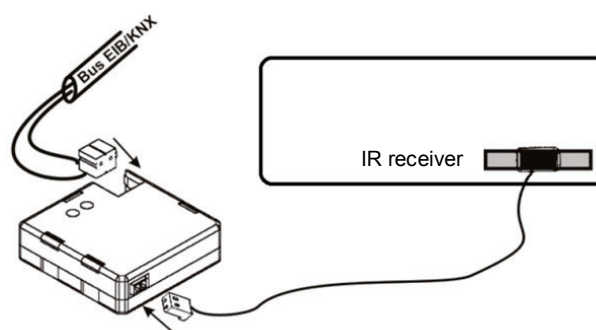

Figure 3. IRSC - A/C unit interface
- **Programming button (3):** a short press on this button sets the device into the programming mode, making the associated LED (2) light in red. If this button is held while plugging the device into the KNX bus, IRSC goes into secure mode.
- **IR emitter (5):** infrared flashing diode to send commands to the air conditioning system. It must be placed in front of the air conditioning IR receiver (see Figure 3).
- **Socket for the aerial connector (6):** slot for the insertion of the aerial connector, through which the IR commands are outputted from IRSC.
Figure 3 shows how to locate the IR emitter (5) in front of the climate system.